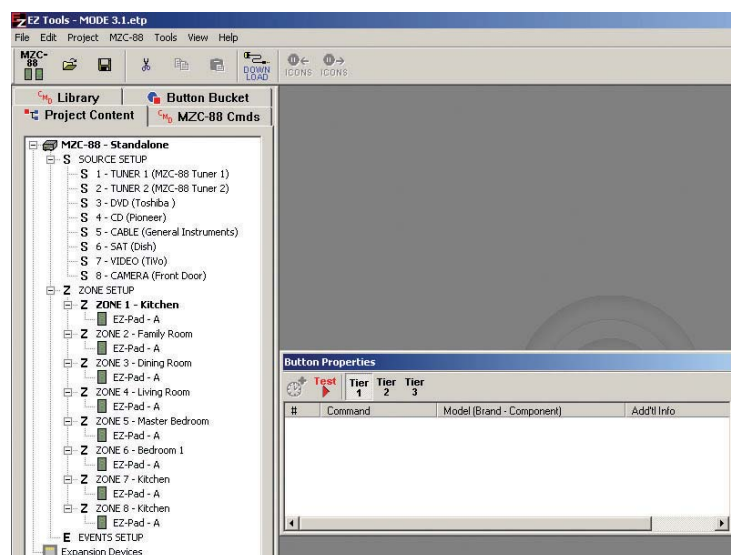

Figure 16
3. In the **Open Window**, highlight and left click the project to be modified. The project will open to the default screen as shown in **Figure 16**.